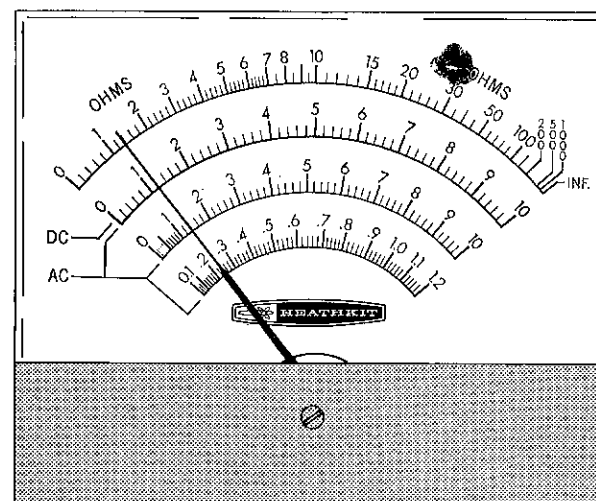

Figure 4
- (1) Turn the SELECTOR switch to AC VOLTS/1000 and set the POWER switch to ON.
- (2) Connect the AC-ohms test leads (black lead and red lead) across the AC line. You can do this most conveniently if you first attach the alligator clip on the black lead to the metal shank of a screwdriver. Then insert the blade of the screwdriver into one of the slotted openings in an electric wall outlet. TAKE CARE NOT TO TOUCH THE TIP OF THE RED PROBE TO THE SCREWDRIVER, and carefully insert the tip of the red probe into the remaining opening in the wall outlet.
- (3) Adjust the AC CAL control (on the circuit board) for a meter reading of 120 volts on the black scale (this is a reading of 1.2, or one scale division above the numeral 1, as shown in Figure 4). If the line voltage is known to be other than 120 volts, adjust for this value.
- (4) Disconnect the test leads from the AC line.